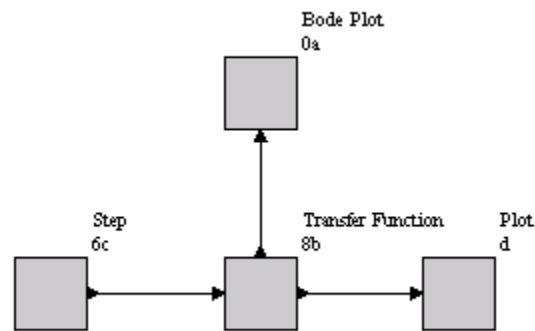

Figure 3: Saved flowgram using Paint
- Step6: At the Ms Word file that you wish to save your work in, place the cursor where you need your work to appear and press *Ctrl-V* (or right-click and Paste). The result is shown in figure 3: